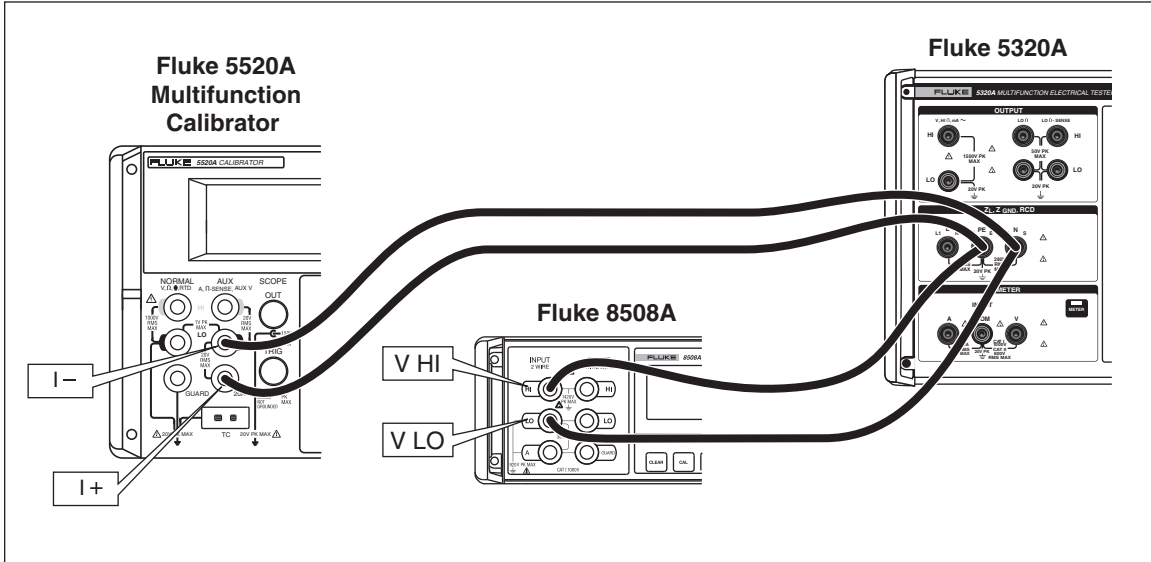

Figure 3-29. High Current Bond Resistance Connections
1. Connect the Calibrator to the multimeter and multifunction calibrator as shown in Figure 3-29.